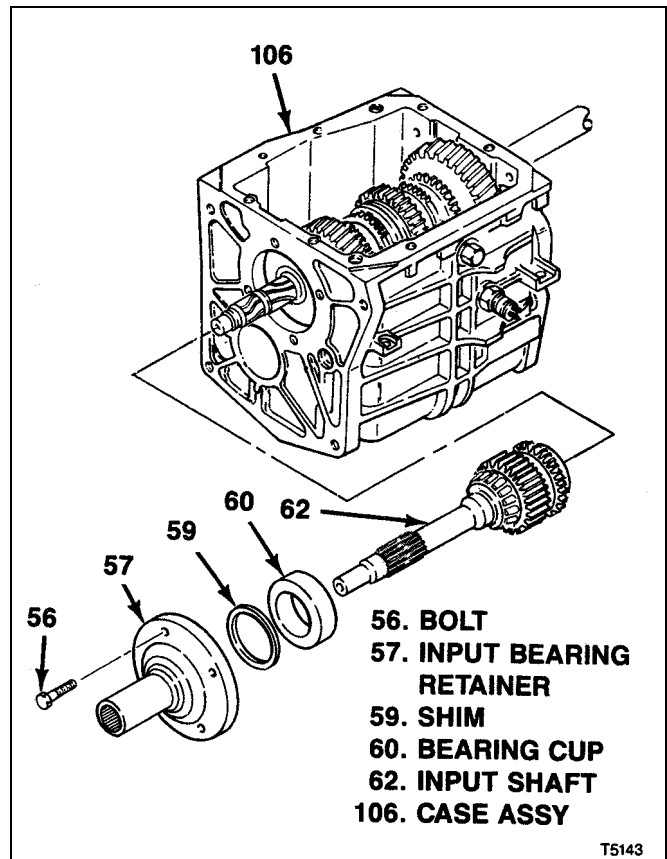
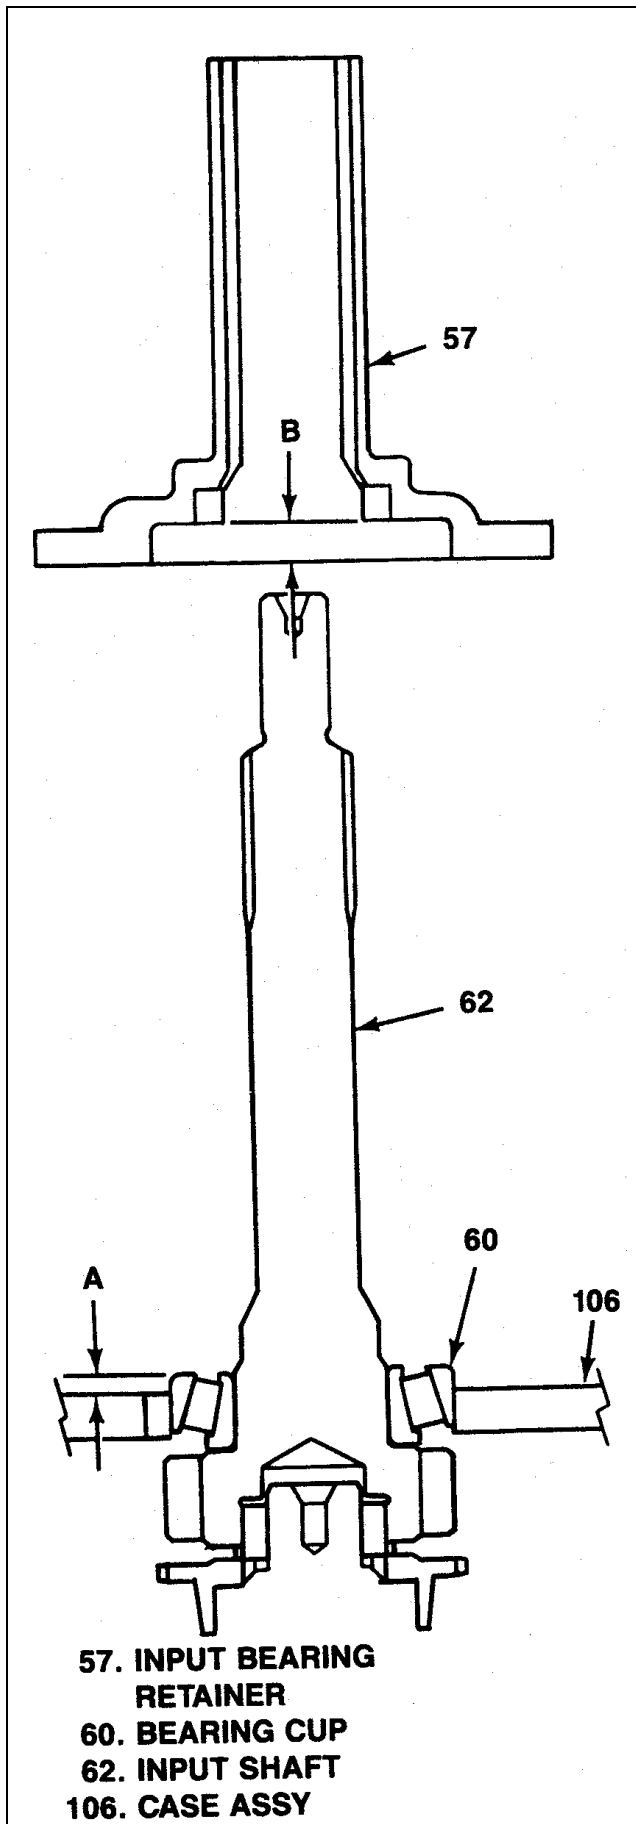

Figure 7-21. T5 STD Bearing Preload Adjustment
Figure 7-22. T5 STD Bearing Preload Measurements
7-19. ADJUSTMENT OF T5 STD INPUT/OUTPUT SHAFT BEARING PRELOAD. with both input bearing retainer and extension or adapter installed as described in preceding paragraphs, adjust input/output shaft bearing preload as follows (see figure 7-21 and 7-22):
- b. Remove bolts (56, figure 7-21) attaching input bearing retainer (57) and remove bearing retainer.
- c. Using hand pressure, press down firmly on input shaft (62) and bearing cup (60) to ensure that power train parts in transmission are fully seated.
- d. Using suitable depth micrometer measure and record the following (see figure 7-22):